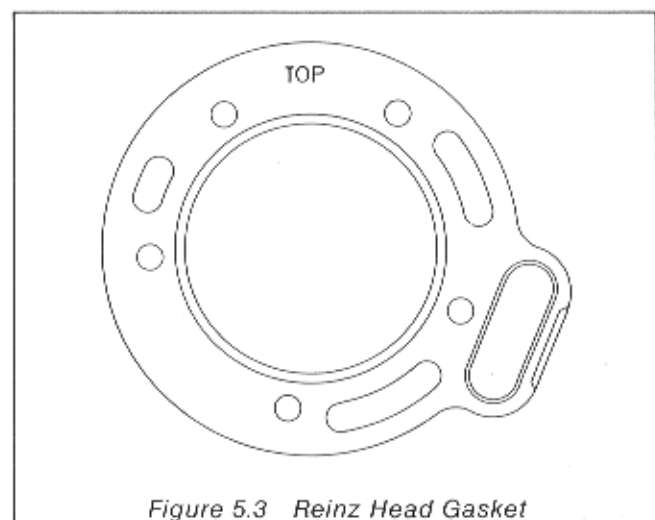

Figure 5.3 Reinz Head Gasket
- (1) Fit a new cylinder head gasket ensuring that the gasket faces are clean and dry. (See Paragraph 5.21 and Figures 5.3 and 5.4 to identify the type of gasket).
- (2) Fit the cylinder head.
- (3) Lightly lubricate the push rods and place in their noted positions.
- (4) Fit the rocker support seal, rocker support and rockers.
- (1) **Reinz Head Gasket** (Figure 5.3). Grey in colour with the word Reinz written all over the upper face.